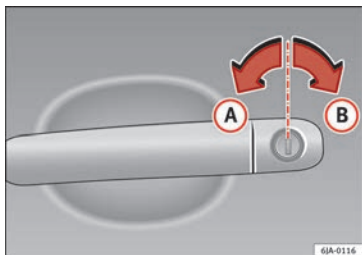

Fig. 120 Key positions during vehicle locking and unlocking.
- Turn the key in the driver door in the forward driving direction to its unlock position **(A) » Fig. 120.**
- Turn the key in the driver door lock cylinder in the reverse direction to its lock position **(B) » Fig. 120.**